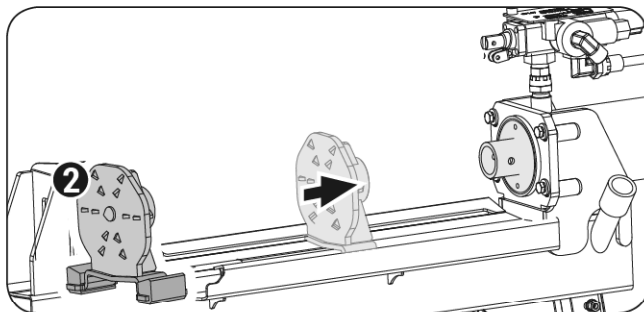

Figure 5
2. Slide the log push plate into the guide rail and slide it onto the cylinder's connection shaft. (See **Figure 5**)